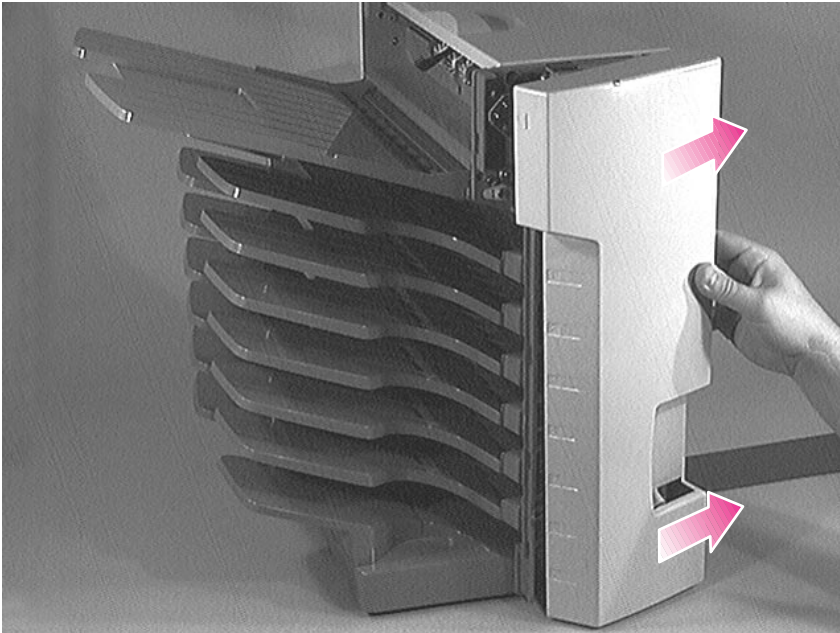

Figure 6-117 Front cover (3 of 3)
- 4 To clear the handle, rotate the Front Cover to the right, and remove it as shown in figure 6-117.